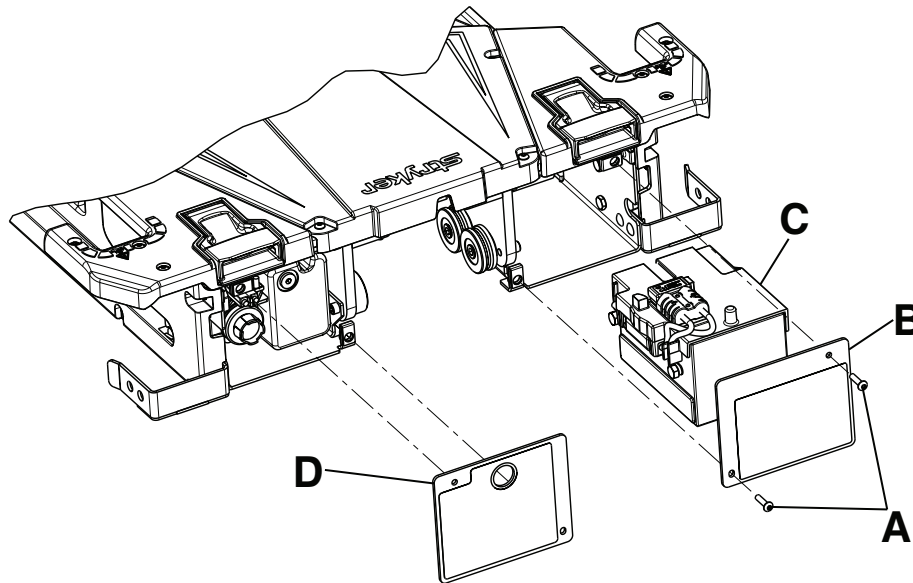

Figure 38: Battery housing components
- Using a T25 Torx driver, remove the two button head cap screws (A) that secure the rear trolley plate cover (B) to the trolley frame (Figure 38 on page 70). Remove the cover.
3. Pull to remove the battery housing assembly (C) (Figure 38 on page 70).
3. Using a 3/16" hex wrench, remove the fill plug (D). (Figure 38 on page 70). See Battery replacement on page 69.